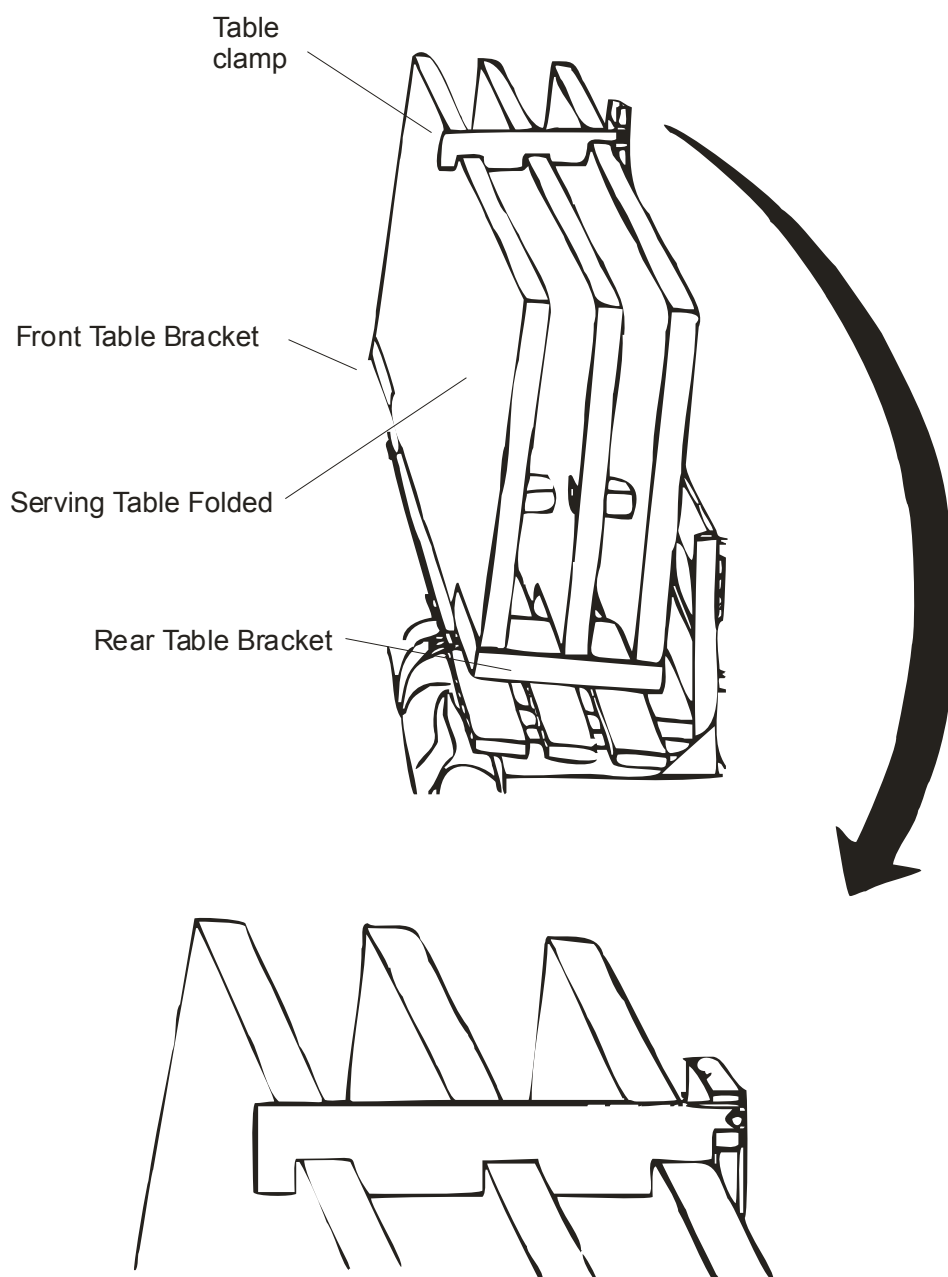

Figure 1-10. Serving Tables, Stowing Clamp, and Brackets
(2) Step 2. Install tables (figure 1-10).